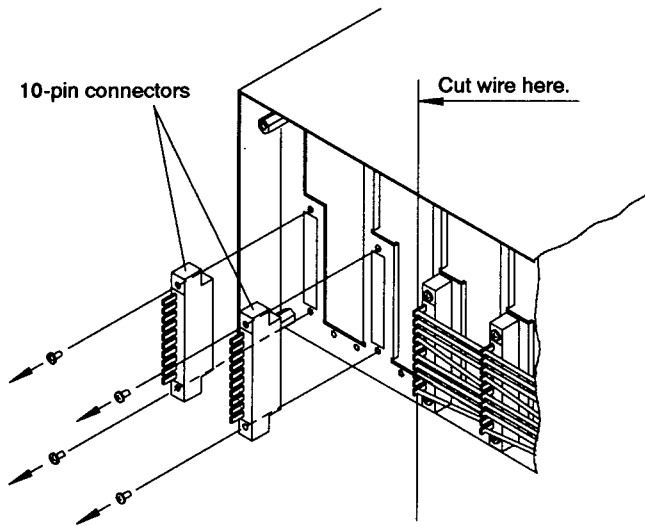

Fig.1
2. Cut wires connected to two 10-pin connectors located on the left hand side (as viewed from the rear) to remove the connectors. (Figure 1)